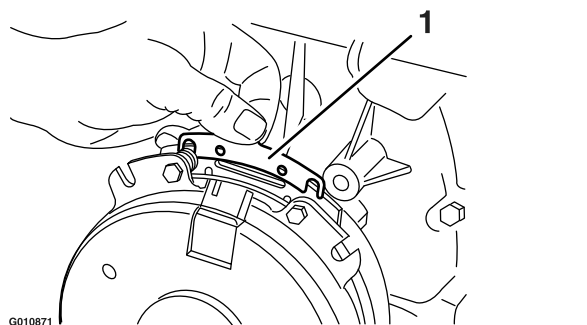

Figure 68
- B. Using needle-nose pliers, or by hand, hold the tab and remove the shim (Figure 68).
Remove any buildup of grass, dirt, or other debris from the engine screen. This helps ensure adequate cooling and correct engine speed and reduces the possibility of overheating and mechanical damage to the engine (Figure 68).